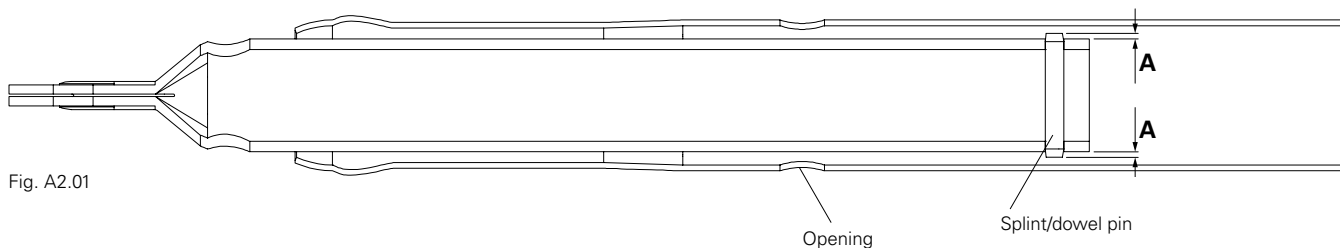

Fig. A2.01
- ⇒  Use a suitable light source for this, e.g. torch (Fig. A2.01 + A2.02)